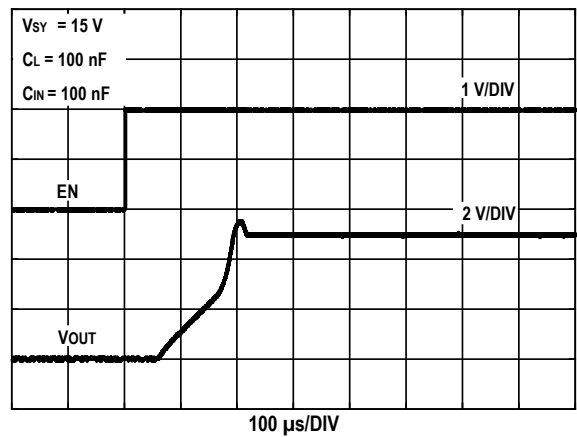
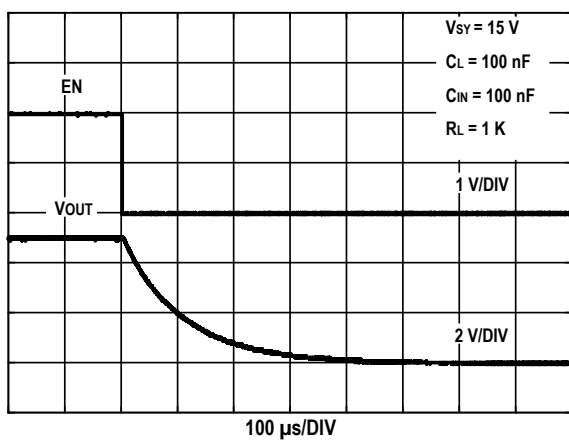

Figure 11. Enable Response
Figure 12. Disable Response
For power consumption sensitive applications, ZJR1004 offers useful shutdown feature. The part burns just $9\ \mu\text{A}$ in shutdown mode, the shutdown procedure can be found in Figure 11 and Figure 12. Shutdown mode is controlled by pin 3 (EN). The voltage threshold of this pin is around $1.2\ \text{V}$ and compatible with CMOS / TTL logic.